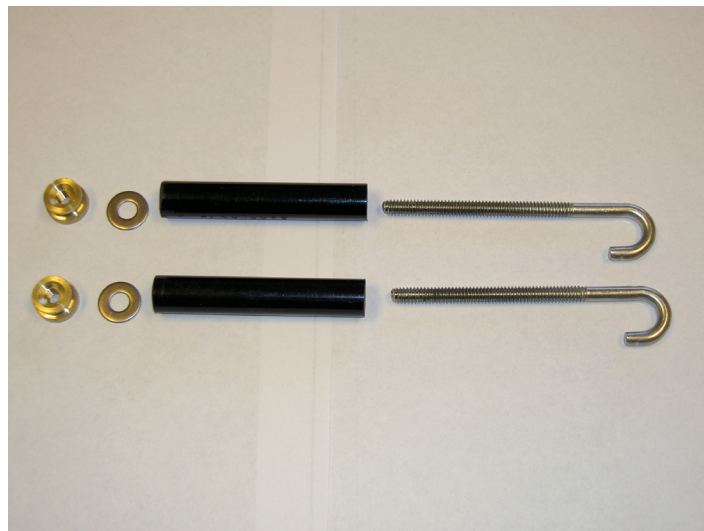
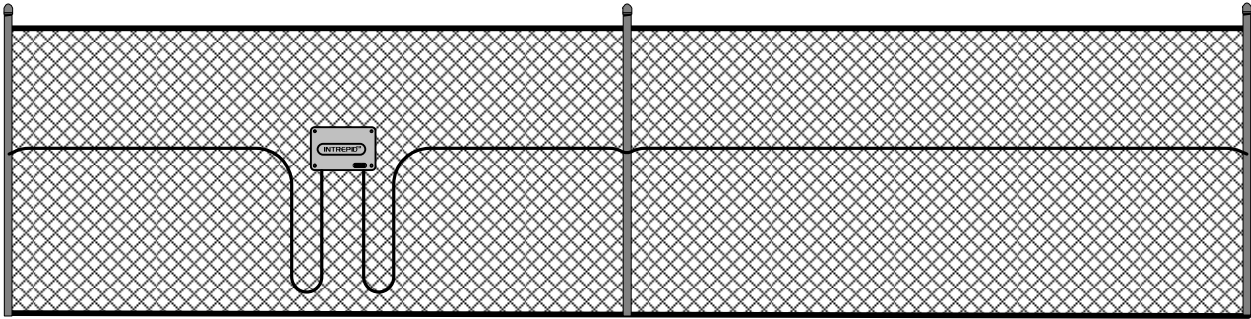

Figure 4.9 - Processor Module II or Link Unit II J-bolts
Figure 4.10 - PM II, LU II, TU II on Fence
Each PM II and LU II includes two (2) J-bolts, two (2) standoffs, two (2) thumb screws and two (2) washers as shown in Figure 4.9. Insert the J-bolt (threaded end) through opposite corner holes in the back of the enclosure. Slip the standoff over the threaded end of the J-bolt from the front of the enclosure. Secure the thumb screw with washer to the J-bolts and leave loose so they can be hooked through the fabric. Attach the PM II or LU II to the fence as shown in Figure 4.10. Once hooked, tighten down the thumb screws. Keep the enclosure level. *Alternatively the enclosure can be mounted to a flat surface using screws or mounted to the fence post using Unistrut.*